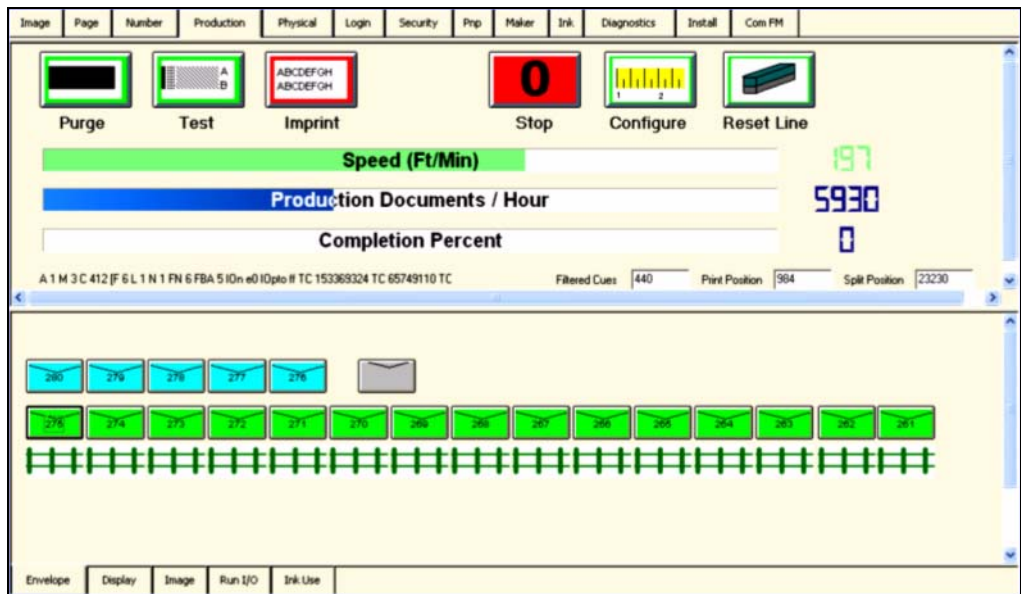

Figure 4-20: Production Envelope Monitoring Screen
- 11 Click on the *Production Tab* and select either *Imprint* or *Image* (see Figure 4-20 on page 4-19).